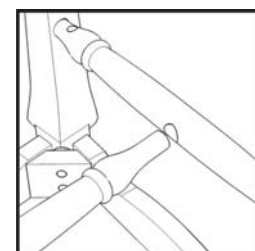

Figure 3
Slide the ends of Center Stretcher (C) into the pre-drilled holes in the middle of Side Stretchers (B). (See Figure 3)